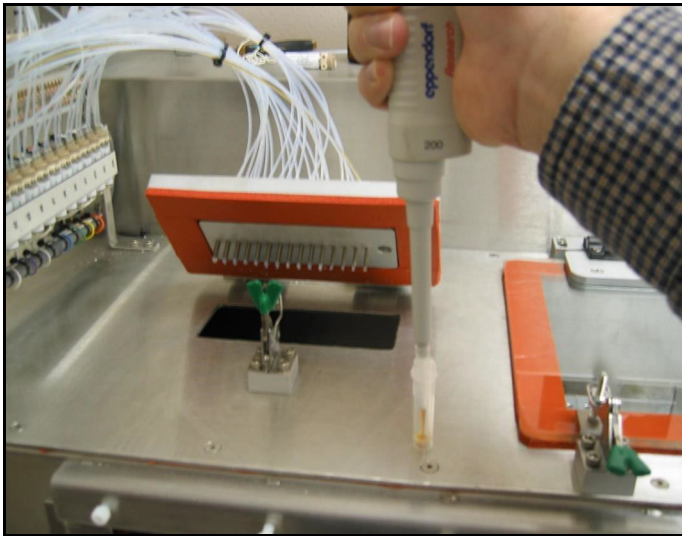

Figure 14
- Draw liquid into pipette and adjust until volume can be determined. It may be necessary to draw liquid in and out a few times to determine volume accurately. (Figure 14)